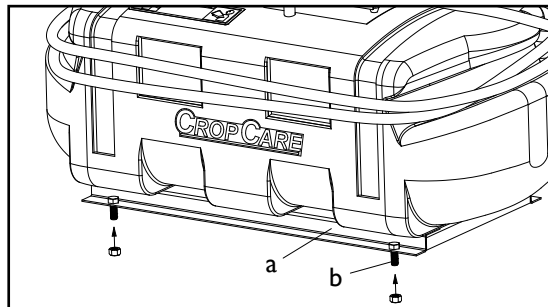

Figure 3: Mounting the sprayer with bolts
2. The sprayer tank is mounted on a powder-coated steel frame (a) with four pre-drilled holes. For optimal stability mount the sprayer with bolts (b) using the pre-drilled holes in the sprayer frame (Figure 3).